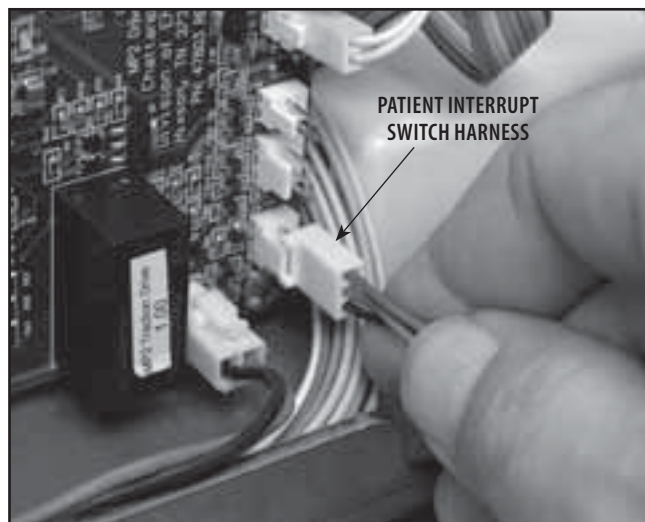

FIGURE 6.10
3. Disconnect the Patient Interrupt Switch Jack from the Motor Control Board. See Figure 6.10.
- a. Connect Patient Interrupt Switch Jack to the Motor Control Board. See Figure 6.10.